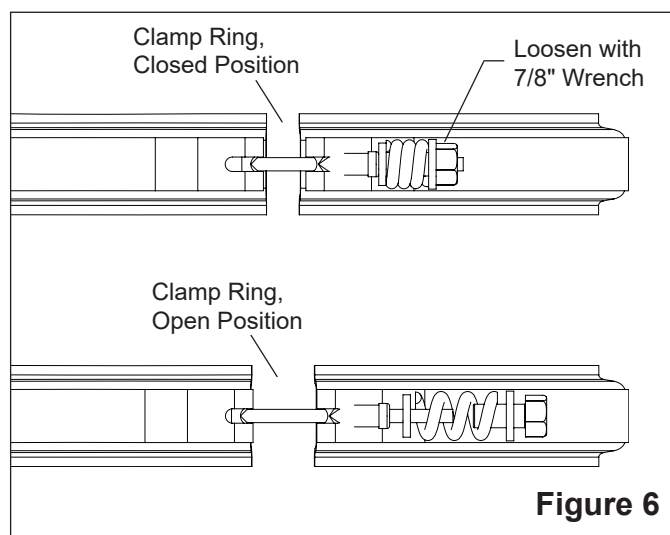

Figure 6
3. Loosen the clamp's barrel nut with a 7/8-inch wrench, allowing the spring coils to decompress. See **Figure 6** Remove the barrel nut, spring and two washers from the T-bolt and place them in a safe place where they will not be lost.